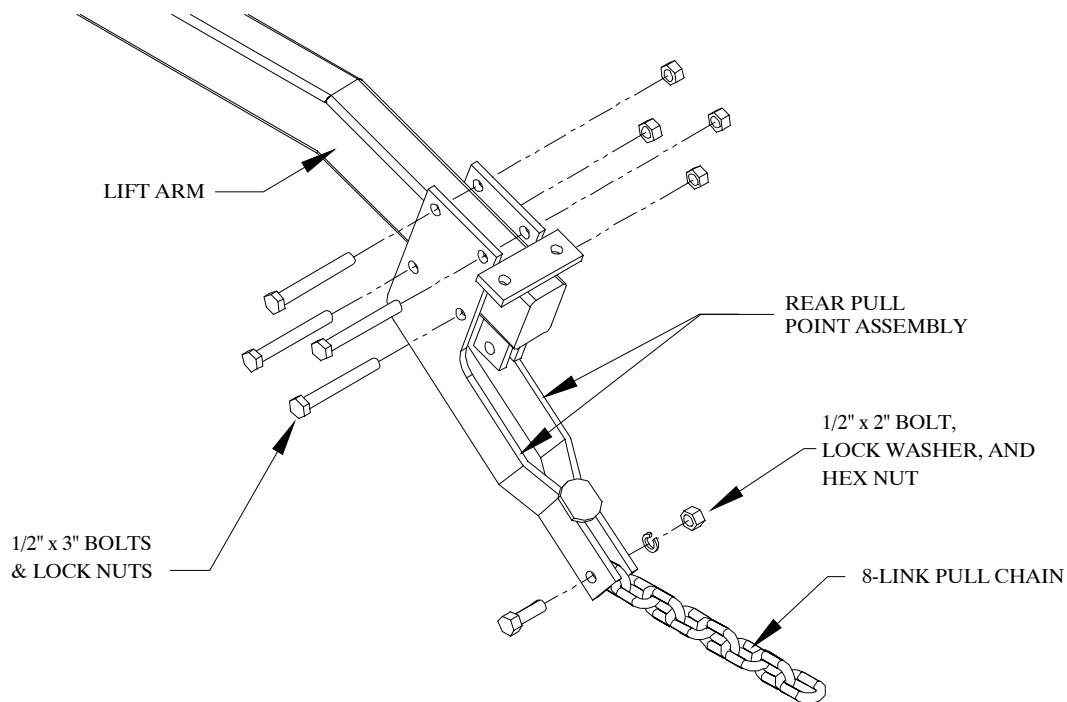

Figure 13
5. *Attach a rear pull point assembly to the rear end of each lift arm. Use four 1/2" x 3" bolt and lock nuts. Refer to Figure 13.*
6. *Bolt an 8-link pull chain to the end of the rear pull point assembly with a 1/2" x 2" bolt, lock washer, and hex nut. Refer to Figure 13. This chain will connect to the first bar of the second set of harrow sections.*